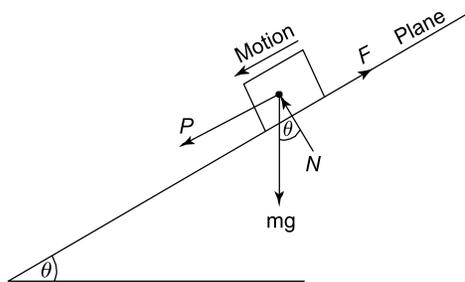

Figure 16.7
In this case, the frictional force  $F$  acts up the plane, opposite to the direction of motion of the plane, as shown in Figure 16.7.
**Problem 8.** If the mass of Problem 7 were subjected to the force  $P$ , which acts parallel to and down the plane, as shown in Figure 16.7, determine the value of  $P$  to just move the body.
6. For a mass of 50 kg, just moving down an inclined plane, as shown in Figure 16.7, what would be the value of  $P$ , given that  $\theta = 20^\circ$  and  $\mu = 0.4$ ? [ $P = 16.6 \text{ N}$ ]